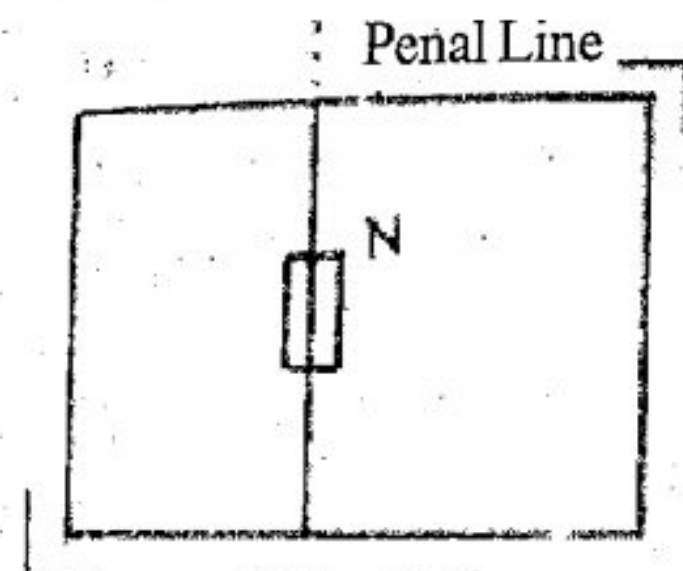
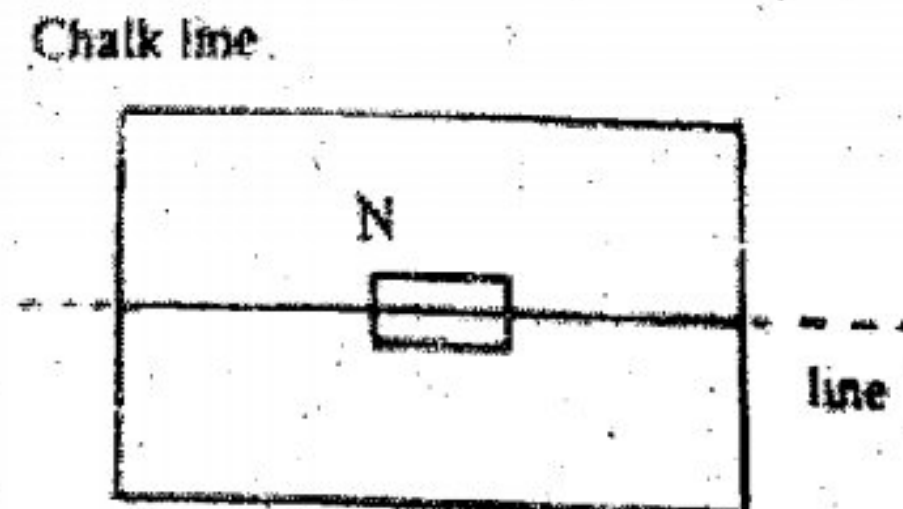

Fig 9.3
Fig 9.4
- (iii) Draw a line in pencil through the middle of paper along the short edge for performing the I part of experiment i.e. N-pole of magnet toward north as shown in Fig. 9.3. For the II part of the experiment line will have to be drawn parallel to long edge as shown in Fig. 9.4.
- (vi) Place the drawing board such that the line on paper in pencil is parallel to the line drawn in chalk on the table, as shown in two cases in Figures 9.3 and 9.4.
- (i) For drawing the magnetic field in this case and locating neutral points place the drawing board with pencil line on paper parallel to long edge of board, along the N-S line of earth, as shown in the Fig. 9.4.